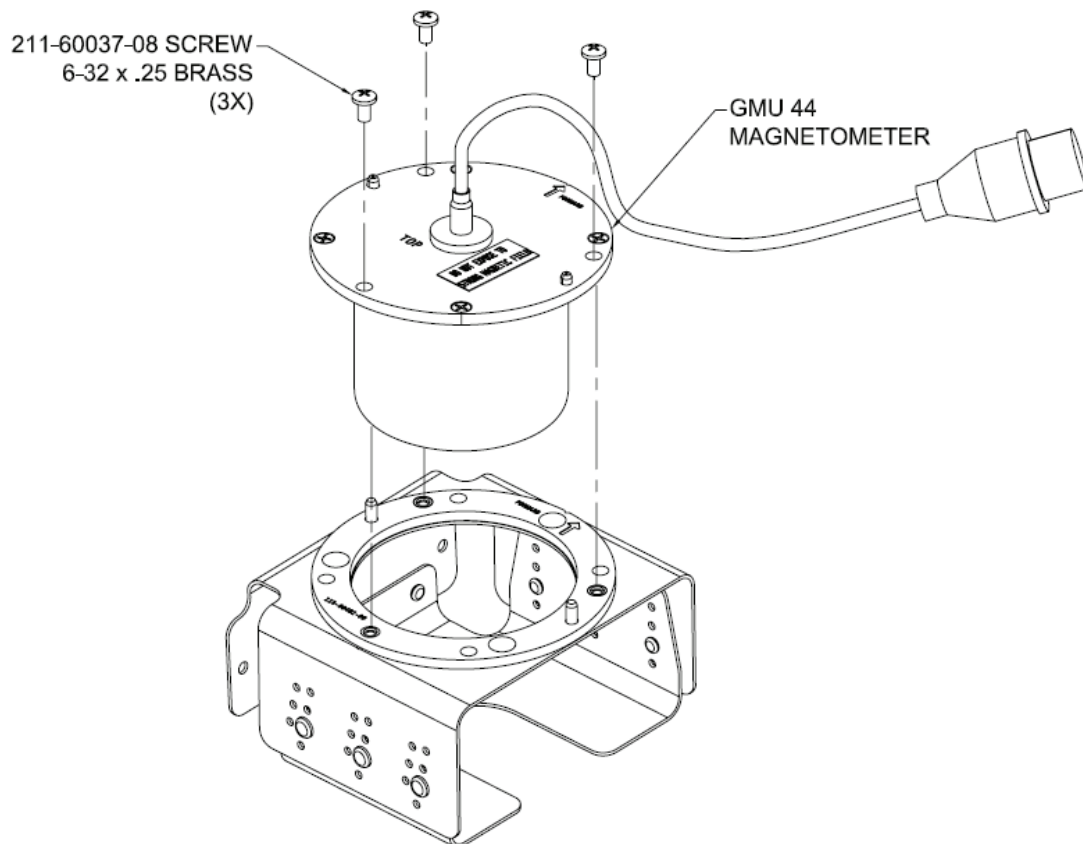

Figure C-13 Secure GMU 44 to the Mounting Bracket Assembly
8. Attach the GMU 44 to the GMU 44 Mounting Bracket as illustrated in Figure C-13 using brass screws.